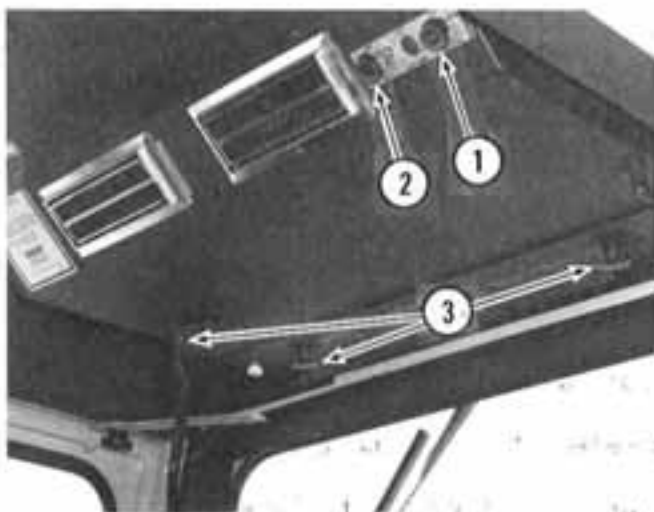

Figure 2
1. Fan switch (Item 2; Figure 2) controls the amount of air that is to be circulated throughout the cab; this switch has three settings.
2. Temp switch (Item 1; Figure 2) controls the coolness of air to be circulated.
3. Vent knob (Item 3; Figure 2) - this knob can be adjusted to control the amount of outside air needed for proper ventilation.